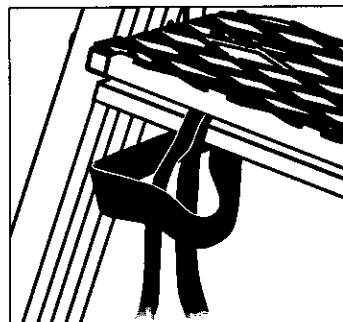

Figure 2A: Attaching the straps
3. Attach backpacking straps (48067) on packed ladder. Fold strap in half. Feed folded strap through foot platform mesh and around platform frame OR around the ladder rung located directly underneath the foot platform. Feed the two loose ends of strap through folded loop and pull tight forming a cinch knot. **SEE FIGURES 2A AND 2B.** Feed the two loose ends of straps around bottom group of ladder rungs and secure with provided tri-slide buckles. **SEE FIGURE 2C.**